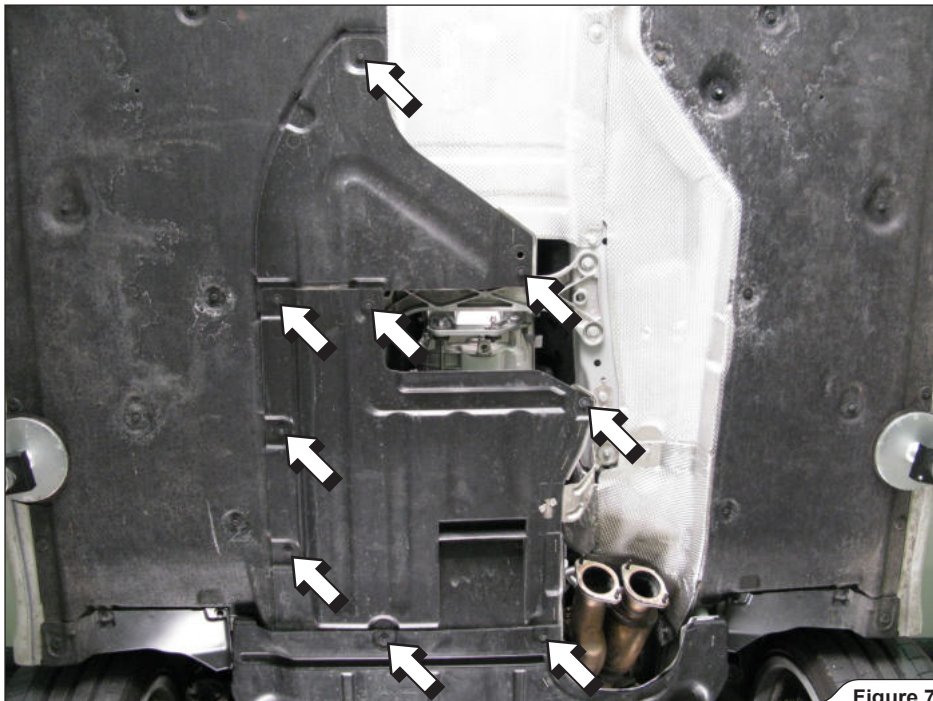

Figure 7
7. **For optional Down Pipes:** unscrew the marked bolts and remove the engine/transmission shields off the vehicle (Figure 7, 8).